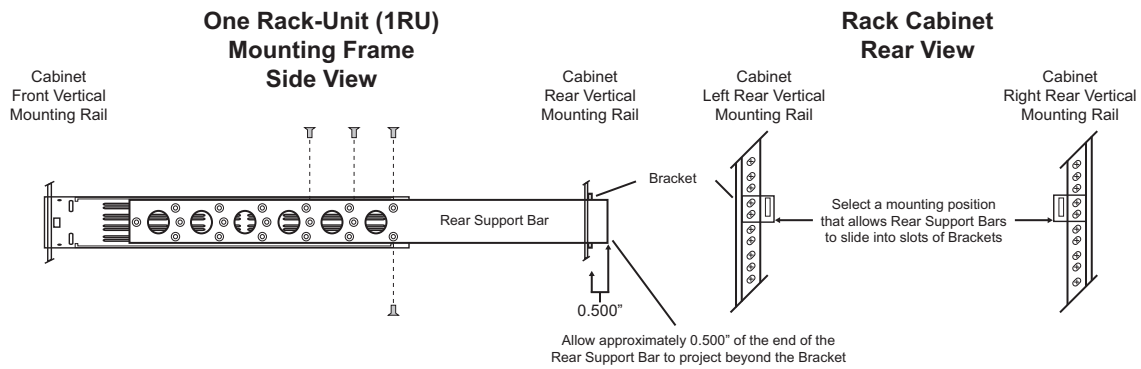

Figure 4.1 Installing the Support Brackets
In some cases, (mobile trucks, etc.) it may be desirable to also support the rear of the ACO-4500. The rear support bars can be attached to the ACO-4500 in six possible positions. (**Figure 4.1**)
2. Using four screws per bracket, as shown in **Figure 4.1**, attach both bars.